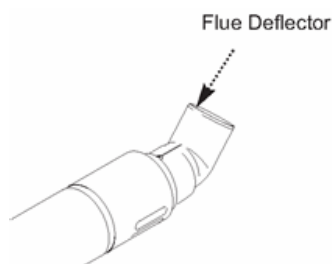

Fig. 13
1. Push the flue deflector over the terminal end. It may point upwards as shown, or up to 45° either way from vertical. Secure the deflector to the terminal with screws provided (Fig. 13).